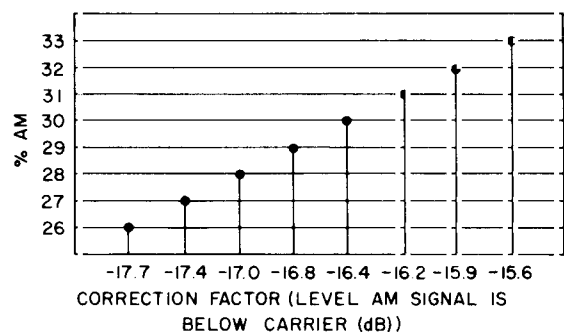

Figure 4-10. Correction Factor Chart
6. Observe the oscilloscope display. The amplitude modulation signal (peak-to-trough amplitude) should be about 1.5 cm (approximately 30% modulation). Determine the correction factor by calculating actual percentage of modulation and referring to the graph in Figure 4-10. To calculate actual percentage divide the peak-to-trough amplitude of the modulated signal by the peak-to-peak amplitude of the unmodulated signal (5 cm) and multiply by 100.
Example, if the calculated percent of modulation is 30% (step 6) the correction factor will be 16.4 dB (Figure 4-10). Since the minimum level of Incidental AM must be 55 dB below the carrier, the 1 kHz amplitude should decrease by at least 38.6 dB (minimum specification level — correction factor).